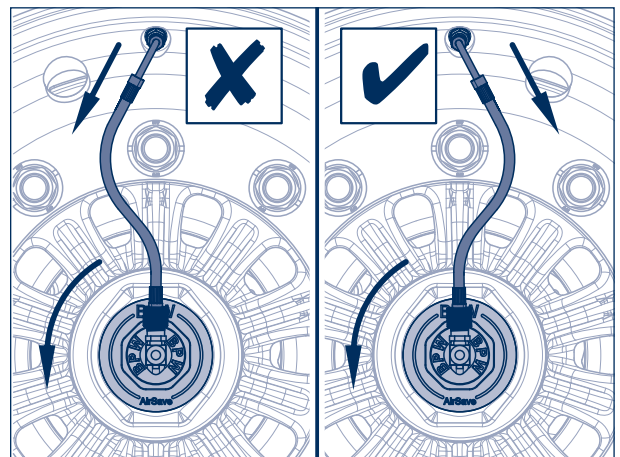

Figure 6
- [6] Turn the hub cap adapter (817) using a spanner (SW 55) or spring pliers until the screwed joint of the rotor can be connected to the valve hose (see Figure 6).
The valve hose must not be pointing in the screw-off direction of the AirSave rotor, see Figure 6.